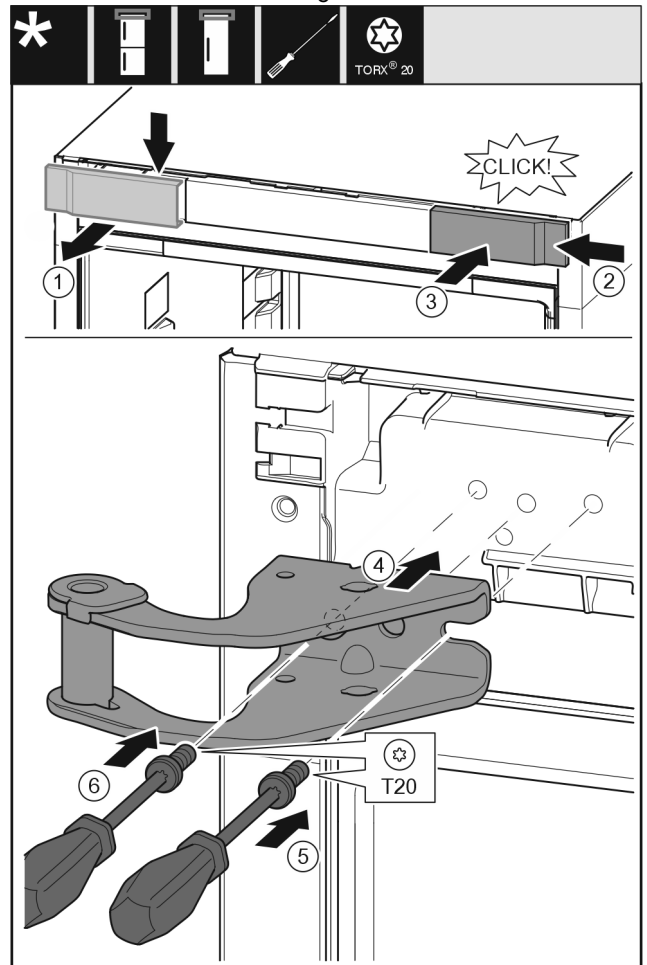

Fig. 11
- ▶ Take off the cover to the front from above. Fig. 11 (1)
- ▶ Rotate the cover 180° and clip onto the other side from the right. *Fig. 11 (2)*
- ▶ Latch the cover into place. *Fig. 11 (3)*
- ▶ Position the upper bearing bracket. *Fig. 11 (4)*
- ▶ Insert the screw with a T20 screwdriver and tighten it. *Fig. 11 (5)*
- ▶ Insert the screw with a T20 screwdriver and tighten it. *Fig. 11 (6)*